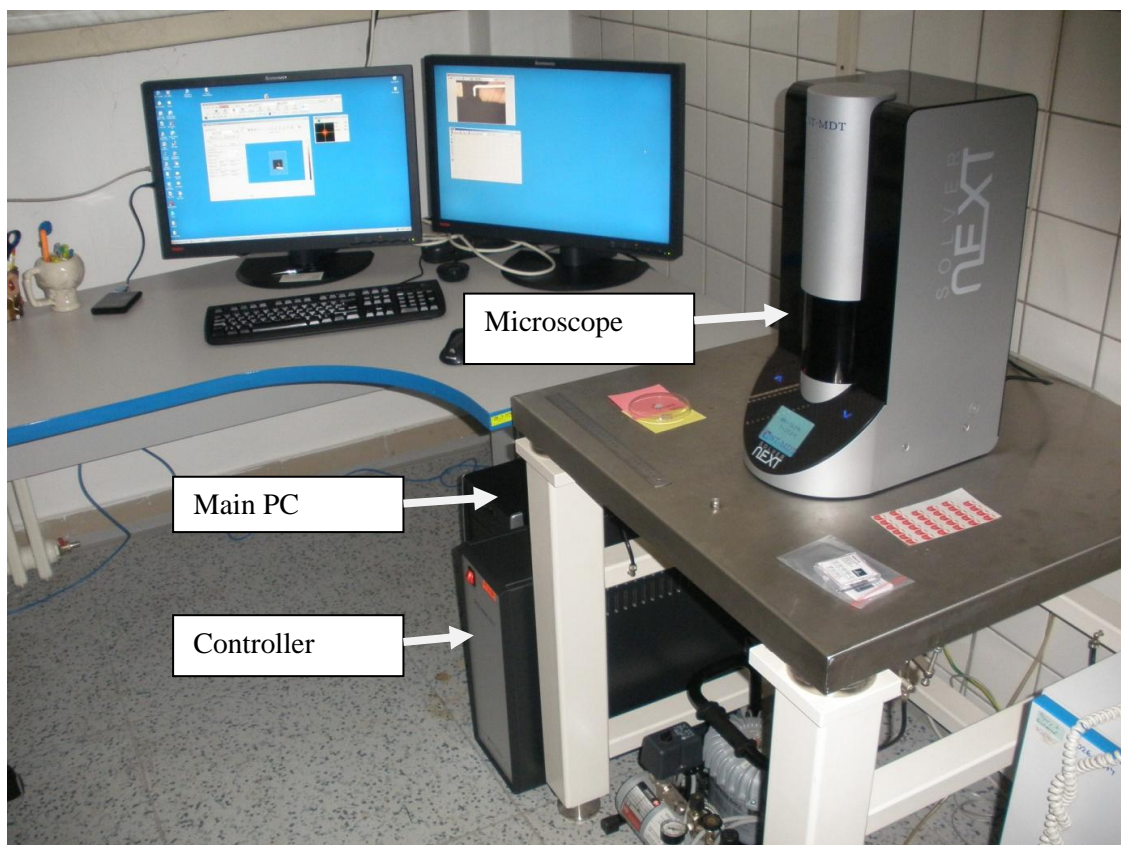

Fig. 1 SPM system SOLVER NEXT
- a. Turn on “Main PC” (Fig. 1)
- b. Turn on “Controller” (Fig. 1)